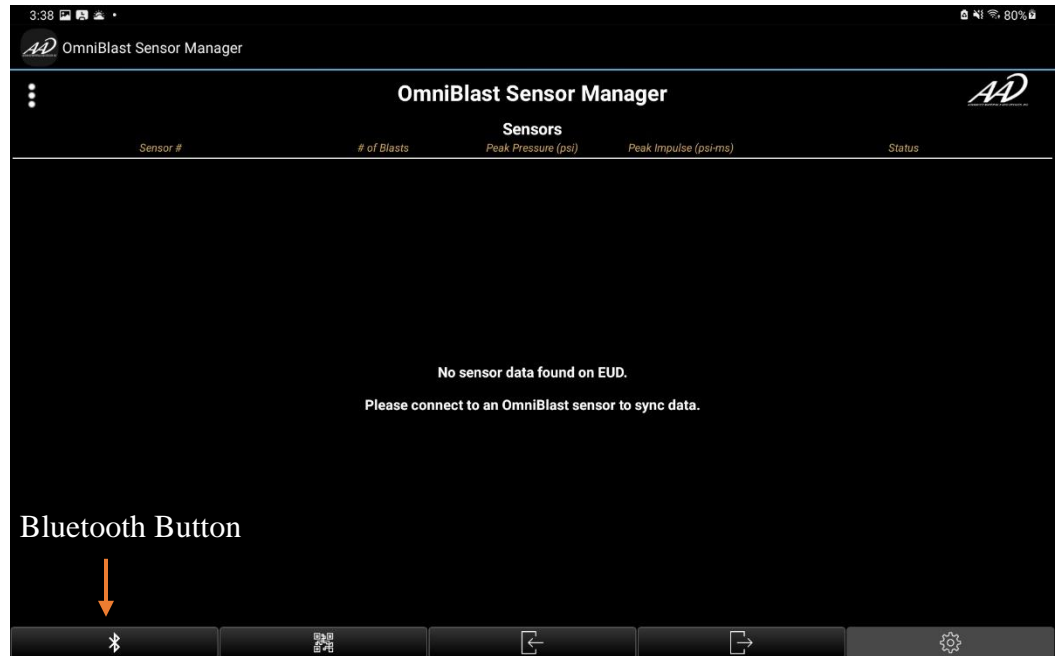

Figure 7. Bluetooth button in the OSM.
- a. One can scan for OmniBlast™ sensors that are powered on and awake by selecting the Bluetooth button (**Figure 7**)